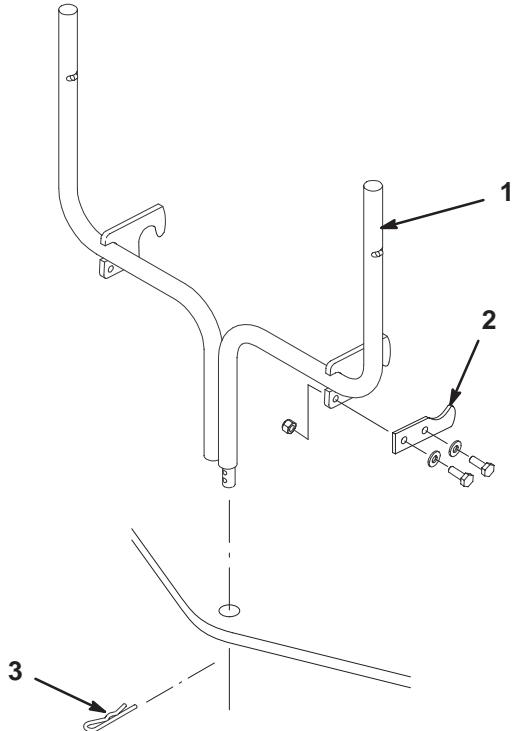

Figure 25
3. Remove the plates and fasteners from the quick-attach bracket (Fig. 25).
4. Remove the hairpin cotter from the hole at the bottom of the quick-attach bracket (Fig. 25).
5. Slide the bottom of the quick-attach bracket up out of the hole in the hitch (Fig. 25).